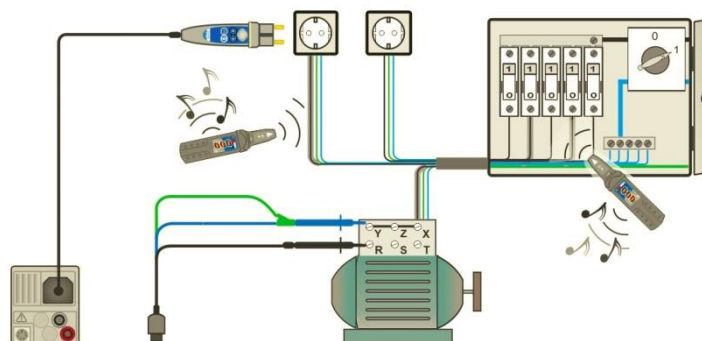

Figure 7.100: Tracing wires under walls and in cabinets
- › Connect test leads to the tested object (see **Figure 7.100** and **Figure 7.101**).